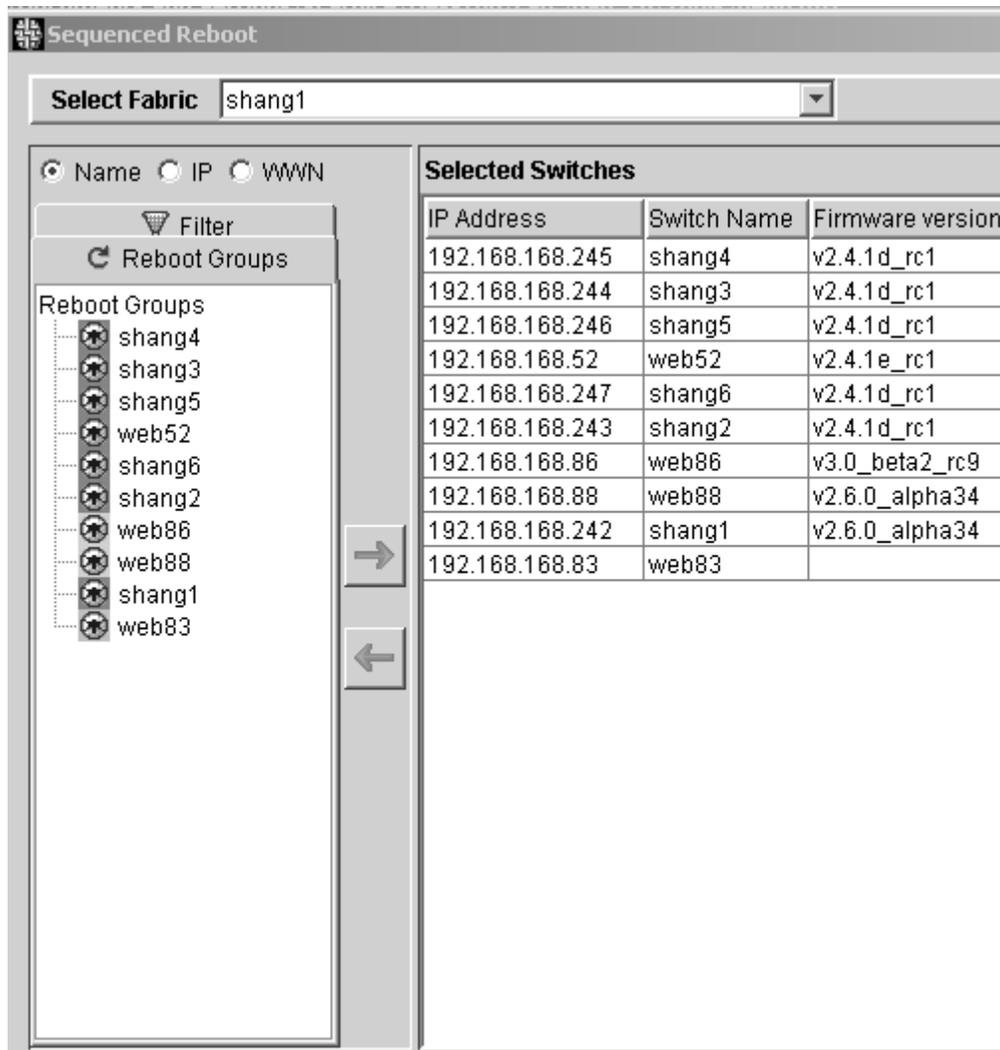

Figure 9–11: Sequenced Reboot dialog box
2. Click **Sequence Reboot**. The **Sequence Reboot** dialog box displays, as shown in Figure 9–11.